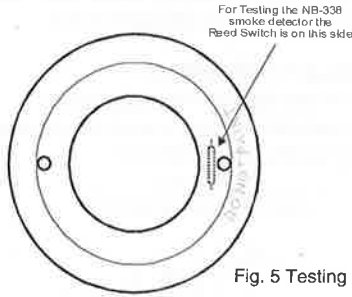

Fig. 5 Testing magnet switch
- Position the "Test Magnet" against the side of the detector housing marked "TEST" for at least 5 seconds as shown in Figure 5. The detector should be triggered to alarm as indicated by steady red LED illumination. Reset the control unit to return to normal operation.